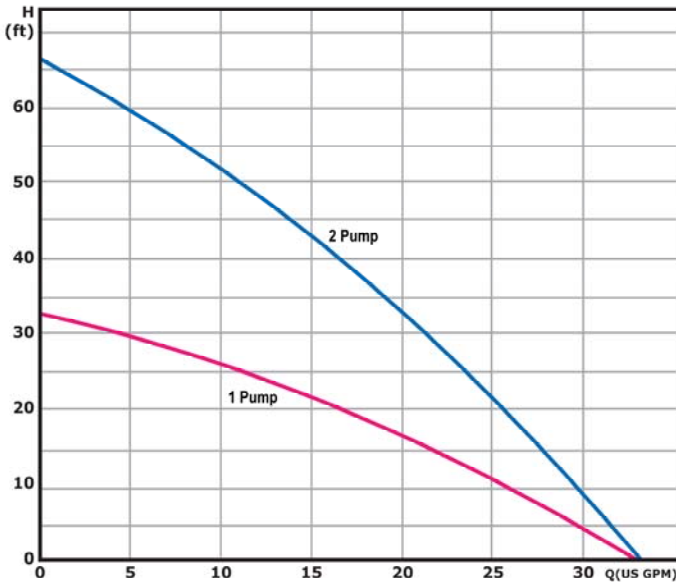

Fig. 1. Low Head Pump Center Flow Chart
The Multizone is designed to work with up to four heat pumps or four heat pump circuits. Each pumping circuit shall be checked with the performance curves (See Fig. 1, 2 & 3). To ensure adequate flow, the selection must be based on your specific system design.
1. By using the flow meter tool, monitor the flow (GPM) being pumped through the entire system. If the flow is not correct, check that the proper flow center has been selected for the application using curves from Fig. 1 and 2. If the pump curve indicates the proper flow center was installed and the GPM is less than the system requires, an obstruction in the system is restricting flow.